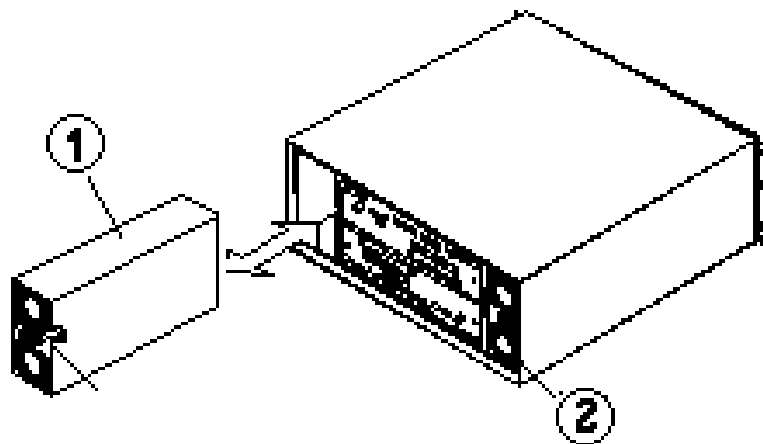

Figure 4-5: Base Unit Power Supplies
①	Safety Lock
②	Lock Lever
③	Lock Button
④	Power Cable Retainer
4. Using both hands, slide the power supply out of the unit. See Figure 4-5.